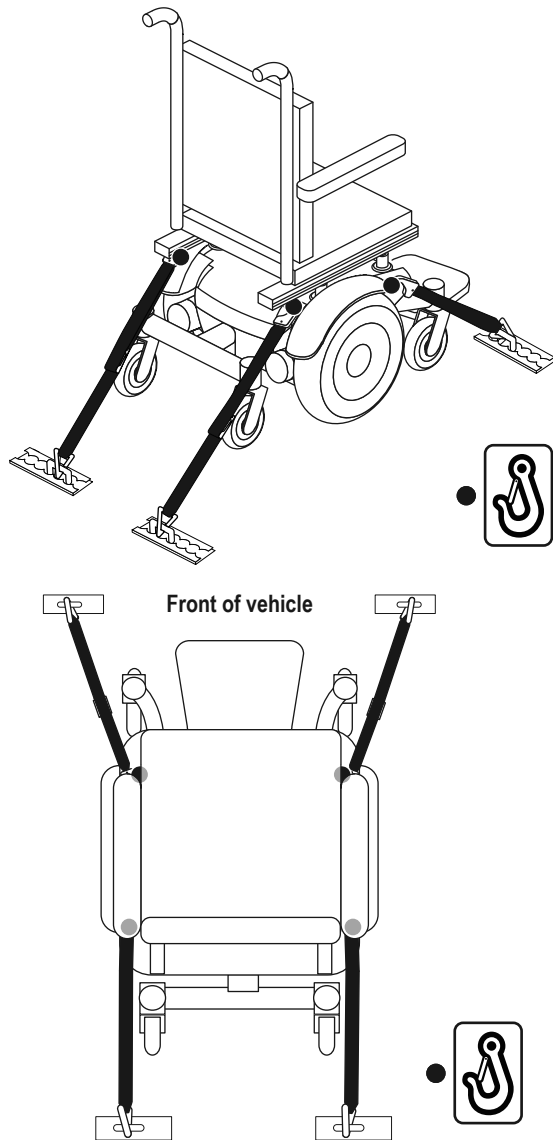

Figure 10. Unoccupied Transit System Securement Points
- Position the anchor point for the rear tie-down straps directly behind the rear securement points on the power chair. The front tie-down straps should be anchored to floor points that are spaced wider than the power chair to provide increased stability. **See figure 10.**